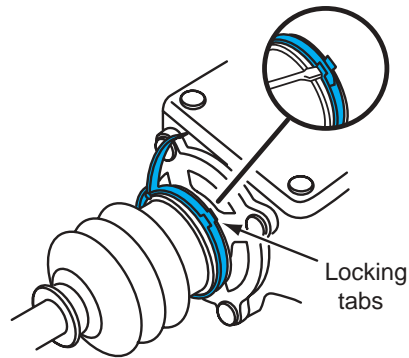

Figure 13-19 Tightening and staking the inner tie-rod boot clamps.
9. Tighten the boot bands and bend both sets of locking tabs over the band (Figure 13-19). Tap lightly on the doubled over portion of the band to reduce its height and stake the locking tabs firmly.